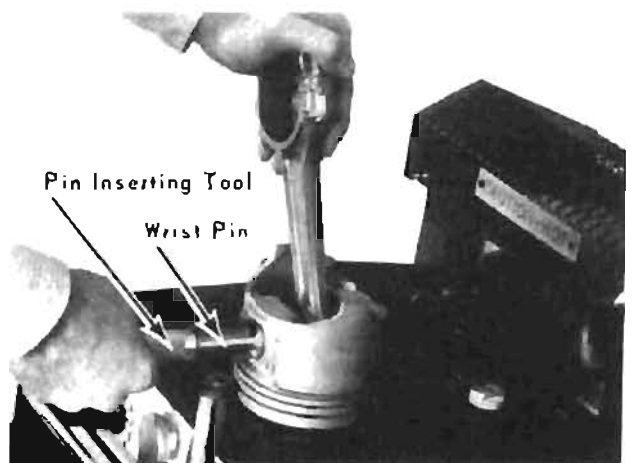

FIGURE 13
4. With a quick and continuous motion, remove the rod from the Heating Unit and place the eye of the rod in the piston so it rests on the Plunger. See Figure 13.